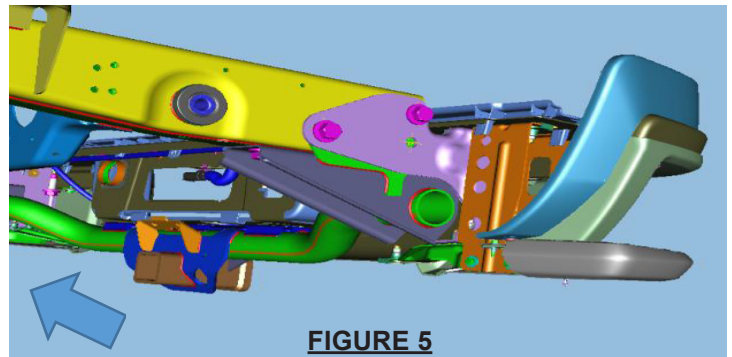

FIGURE 5
Tighten all (8) M14 bolts to 160 +/- 25 Nm as shown in See Figure 5
Replace the (2) M8 bolts, clips, and tire bracket. See Figure 5